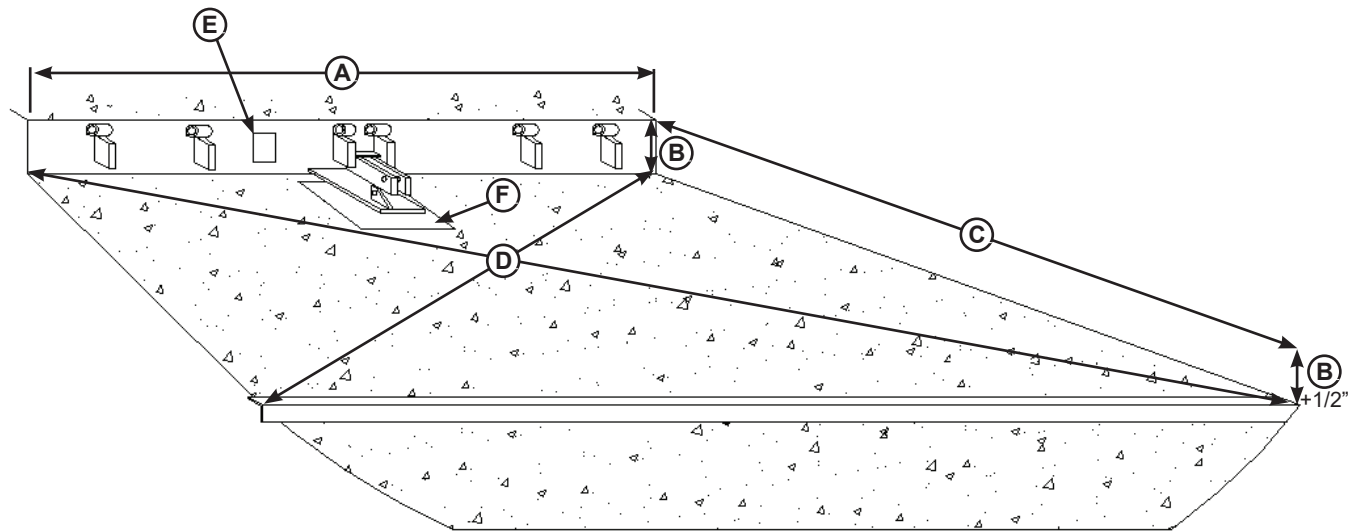

Figure 5
2. Check the entire dock leveler pit for proper construction according to approved/certified pit drawings. Make sure pit is square, has the proper depth and taper by making the following measurements (see **Figure 5**):